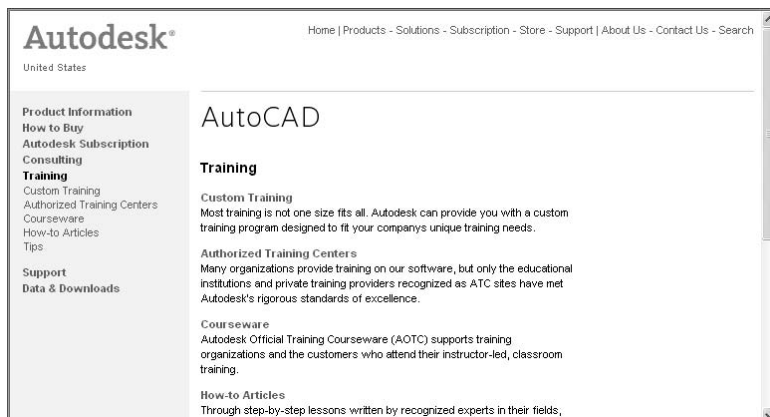

FIGURE BC.5: The Training page of the Autodesk.com website
- Clicking Online Training Resources takes you to the Training page of the Autodesk.com website (see Figure BC.5).